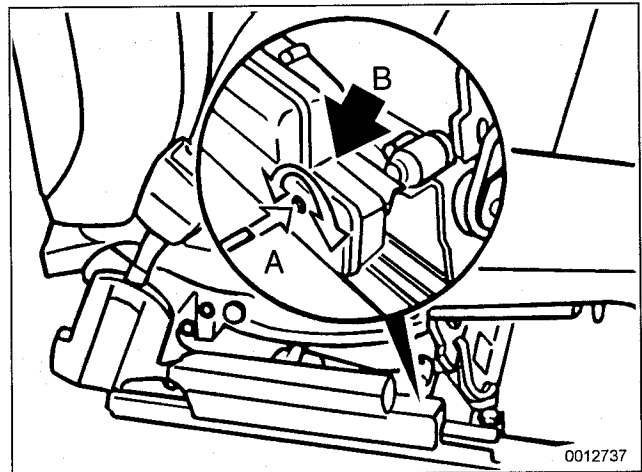

Fig. 2. Electrically adjustable front seat. Turn screw (A) to disarm mechanical tensioner. Display B turns from green to red.
- Working at side of seat, turn activating/deactivating screw clockwise until display changes from green to red. See Fig. 2.